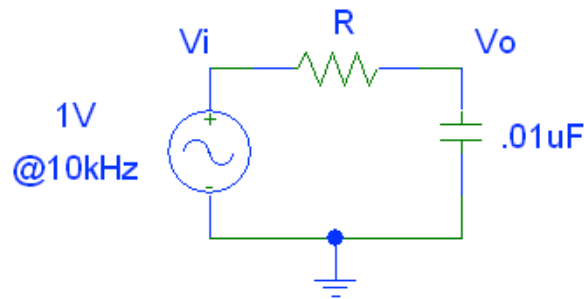

Figure 6: RC Lag Network
1. Suppose the output voltage of Figure 6 is desired to lag the input voltage by 30° . Calculate the value of R that would yield such a phase shift of the output voltage. Looking at the table of “Standard 5 Percent Tolerance Resistor Values” on the inside cover of the textbook; choose a value of R that is closest to the calculated value.